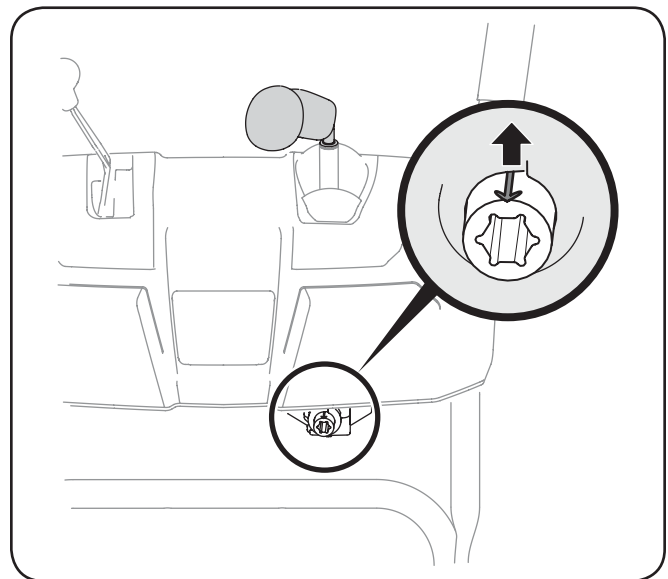

Figure 3-10
- Rotate the joystick to the one o'clock position so that the silver indicator arrow on the pinion gear below the control panel faces upward. See Fig. 3-10.